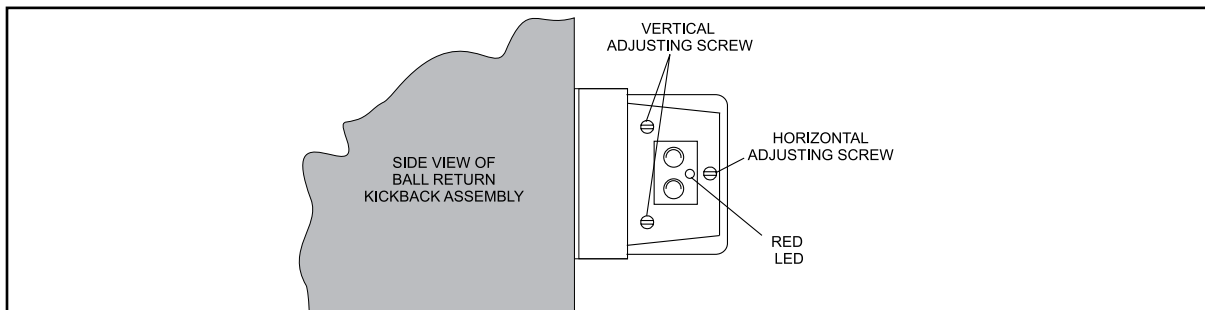

Figure 4-15. Ball Detect Adjusting
- b. Rotate the belt by hand and observe belt tracking. Use light, short taps from a soft rubber mallet to reposition left and right pivot levers until belt is tracking on the center of pulley drum. When the belt is centered, tighten two screws and nuts securing the pivot levers. Refer to *Figure 4-15*.
The red LED (Light Emitting Diode) mounted on the ball detect is “on” when the beam is not being received back from the reflector. This indicates a ball or some object is in the beam’s path or there is an alignment problem. Refer to *Figure 4-15*.
4. Using the vertical and horizontal adjusting screws (refer to *Figure 4-15*) move the beam until it is aimed exactly on the center of the mounted reflector.